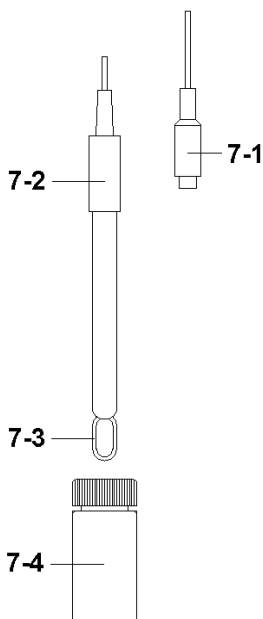

Fig. 4
- 1) Prepare the Conductivity Probe (included, CDPB-04), install the " Probe Plug " (7-1, Fig. 4) into the " CD Socket " (3-15, Fig. 1).
- 3) Hold the " Probe Handle " (7-2, Fig. 4) by hand and let the " Sensing head " (7-3, Fig. 4) immersed wholly into the measured solution. Shake the probe to let the probe's internal air bubble drift out from the sensing head.